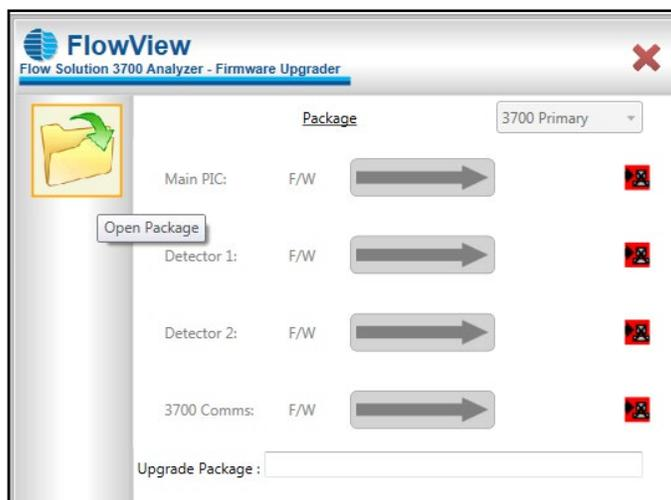

Figure 7.7. Firmware Upgrade Window
2. Click **Upgrade**. The Firmware Upgrade window will open (see Figure 7.7).